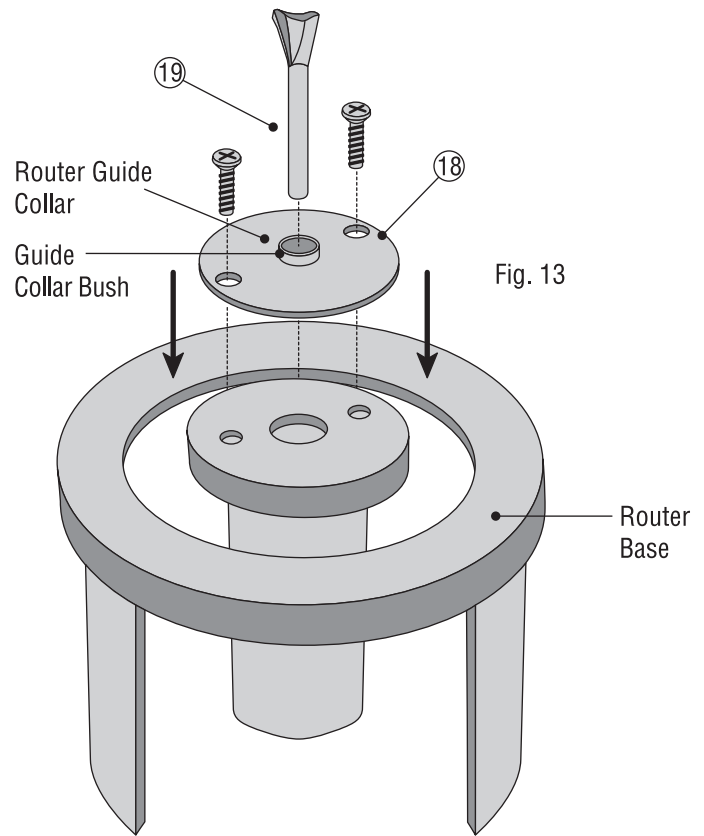

Fig. 13
- 1) Using the supplied 5/8" Router Bit (19) and 12mm Router Guide Collar (18) fit to your Router. Adjust the depth of the Router Base to the end of the Router Bit to 15mm-16mm with the help of a combination square.
- See fig. 13 and 14.